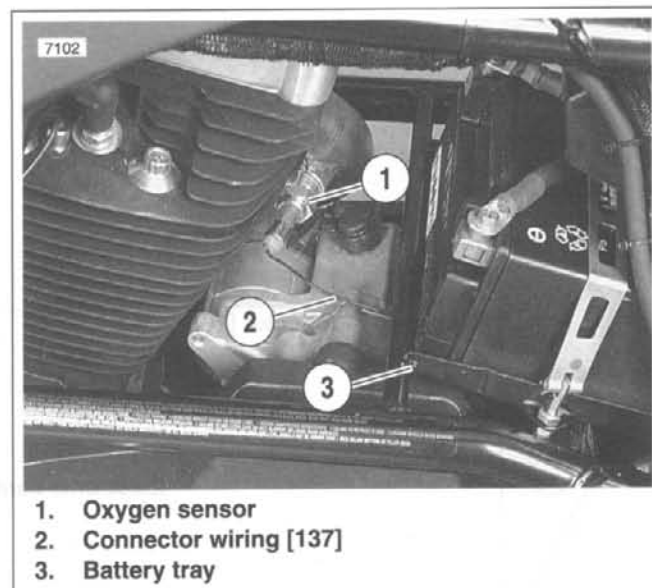

Figure 4-44. Oxygen Sensor Installed
- **Loose O₂ sensor.** See Figure 4-44. If the O₂ sensor is loose engine performance may be affected. This could also show up as a slow changing O₂ sensor voltage on the Scanalyzer.